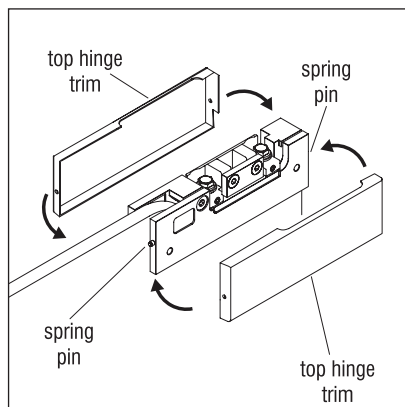

Figure 18
10. Install outer top hinge trim by depressing the spring pins on both sides of one half of the top hinge assembly. Hooking one end of trim mounting hole onto that pin, and then slide to other side to do the same. Do this same process on the other side of the door (Figure 18).